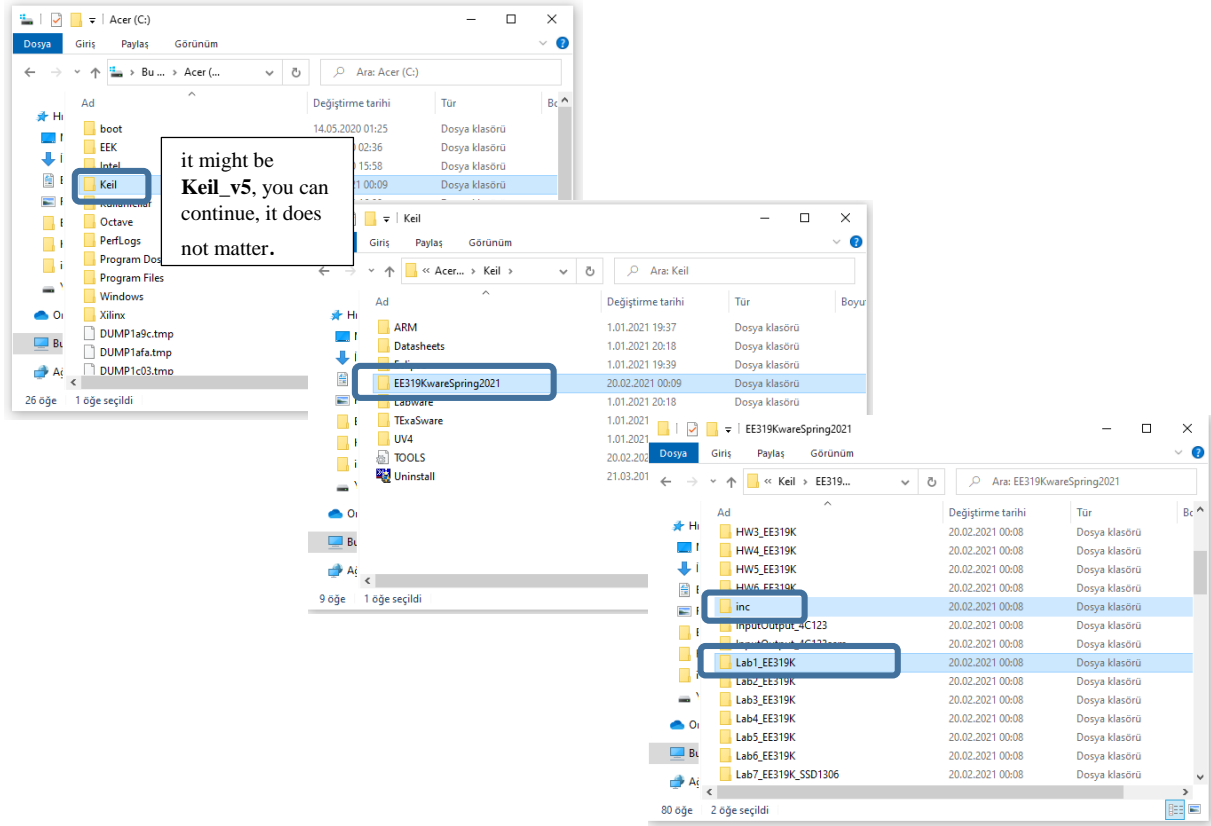

Figure 1: Directory structure with your Lab1
To work on Lab 1, perform these tasks. Find a place on your hard drive to save all your TM4C123 software. In Figure 1 it is called **EE319KwareSpring2021**, created when you install the .exe. Download and unzip the starter configuration from:
- It is important for the directory structure to look like Figure 1. Notice the directory relationship between the lab folders and the **inc** (include) folder. Begin with the **Lab1_EE319K** project in the folder **EE319KwareSpring2021**. Either double click the **uvprojx** file or open the project from within uVision. Make sure you can compile it and run on the simulator. **Startup.s** contains assembly source code to define the stack, reset vector, and interrupt vectors. **main.s** will contain your assembly source code for this lab. You will edit the **main.s** file.